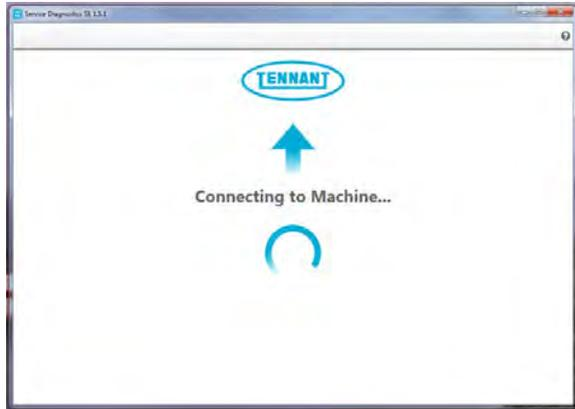

FIG. 52
53. Allow the Service Diagnostics tool to connect to the control module network. (Fig. 52)